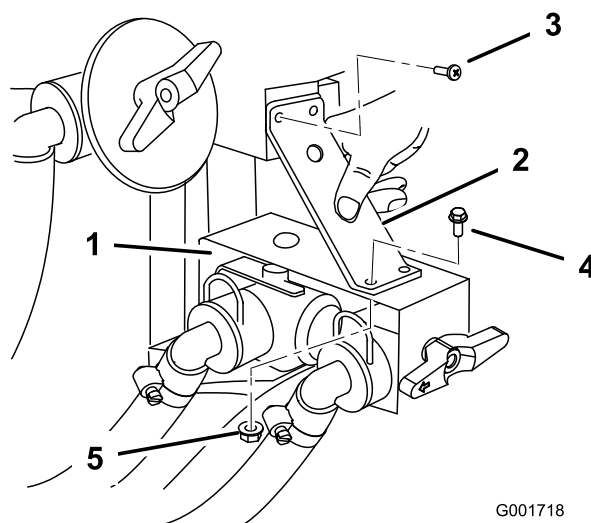

Figure 12
9. Install the support bracket over the control valve bracket. Use the two existing screws securing the upper tee assembly to secure upper portion of the support bracket (Figure 12). Secure the lower portion of the support bracket using two flange-head bolts (1/4 x 3/4 inch) and two flange nuts (1/4 inch).